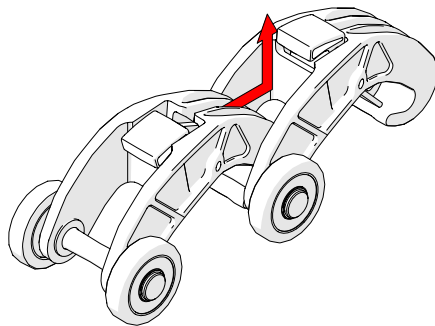

Fig. 73 - Slide link forward and lift
2. While pressing the button, slide the QuickLink forward and up, clearing the hook of the QuickLink from the 2nd link's axle (*Fig. 73*).